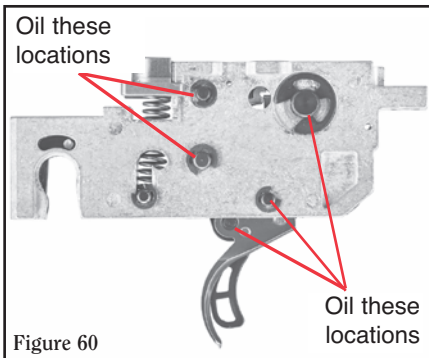

Figure 60
4. Apply a drop of an oil-type gun lubricant to the axle shafts of the trigger group as shown in Figure 60. Allow the oil to run down the shaft into the assembly.